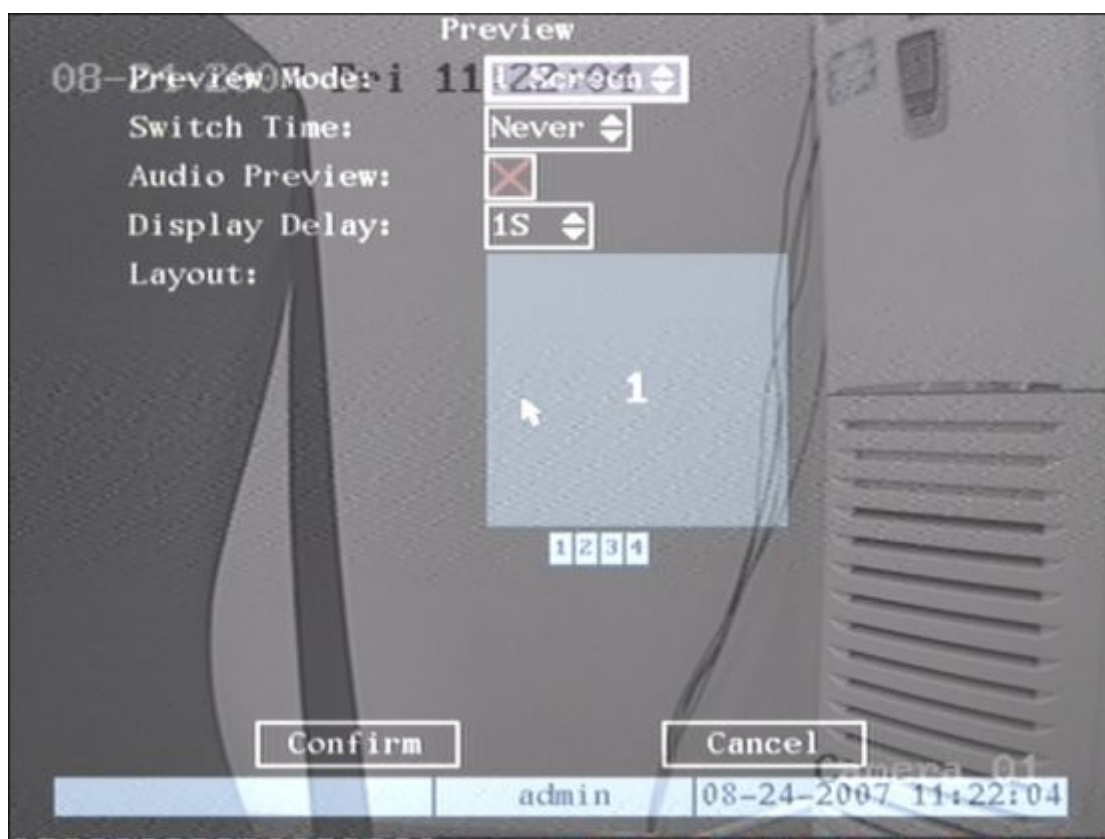

Fig 5.19 Setup preview mode
**Step 1: Enter into “Preview” menu:** In the main menu, move the “Active Frame” to “Preview” icon and press **【ENTER】**, you will enter into “preview” menu as shown in fig 5.19